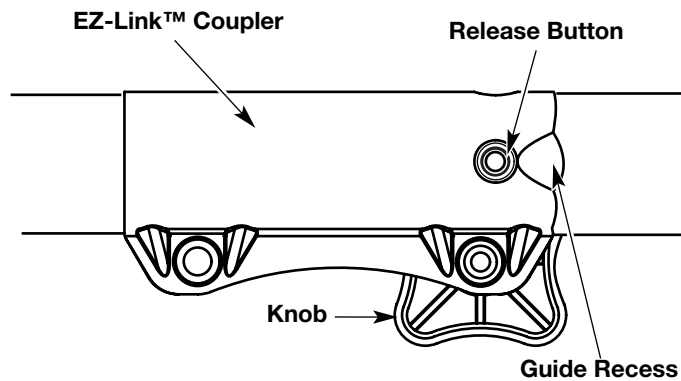

Fig. 24
1. Turn the knob counterclockwise to loosen (Fig. 24).
2. Press and hold the release button (Fig. 24).
1. Turn knob counterclockwise to loosen (Fig. 24).
- NOTE:** Aligning the release button with the guide recess will help installation (Fig. 24).
3. Turn the knob clockwise to tighten (Fig. 24).